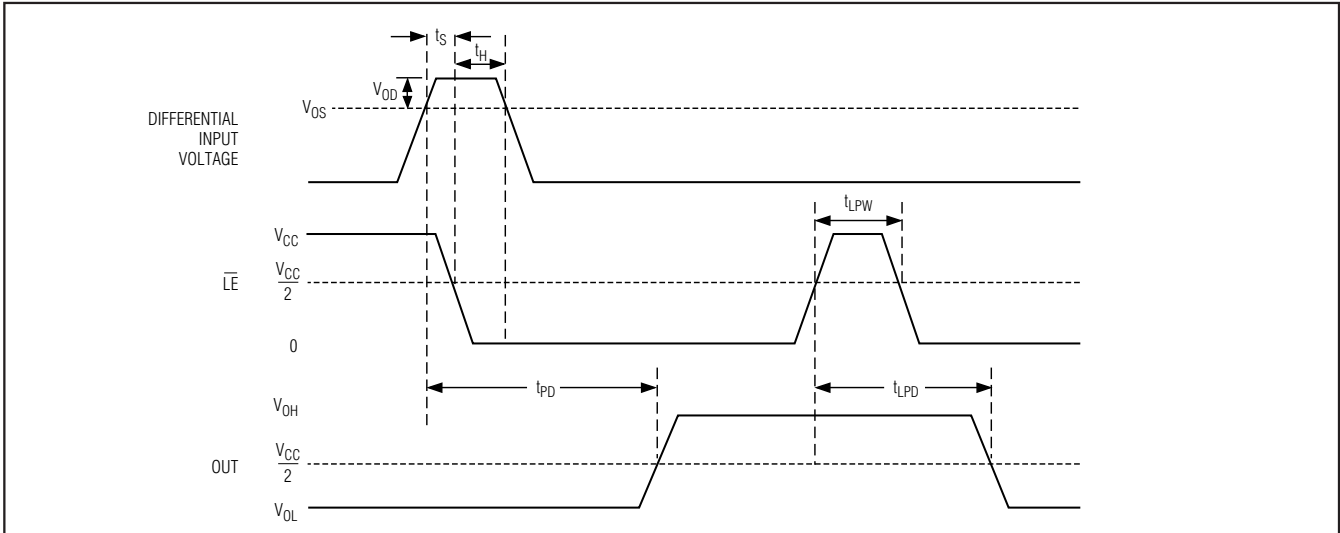

Figure 2. MAX9141 Timing Diagram with Latch Operator
**Note 12:** Applies to the MAX9141 only. Comparator is active with  $\overline{LE}$  driven high and is latched with  $\overline{LE}$  driven low (VOD = 10mV). See Figure 2.
The MAX9141 includes an internal latch that allows storage of comparison results. The  $\overline{LE}$  pin has a high input impedance. If  $\overline{LE}$  is high, the latch is transparent (i.e., the comparator operates as though the latch is not present). The comparator's output state is latched when  $\overline{LE}$  is pulled low (Figure 2).